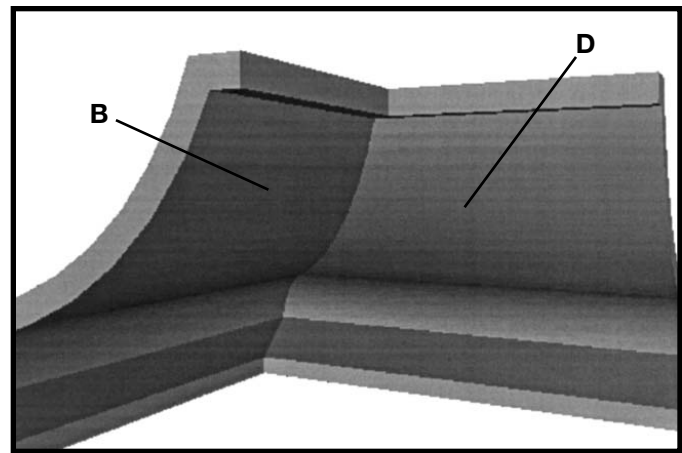

Fig. 44
7. Fig. 44 illustrates the two inside corner pieces.